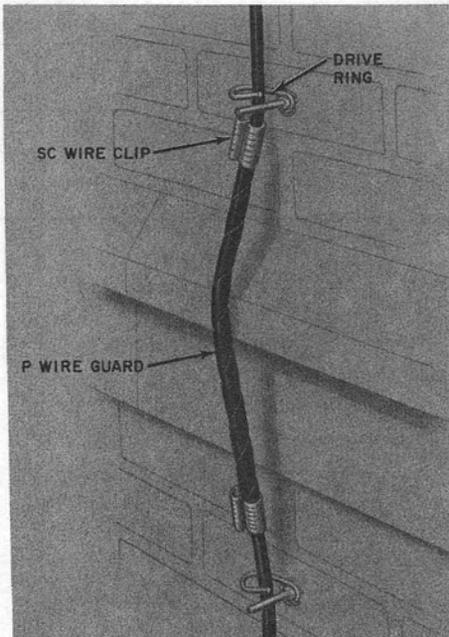

Fig. 3—Crossing Masonry Building Projection
4.04 Fig. 3 through 12 are typical examples of wiring requiring protection.